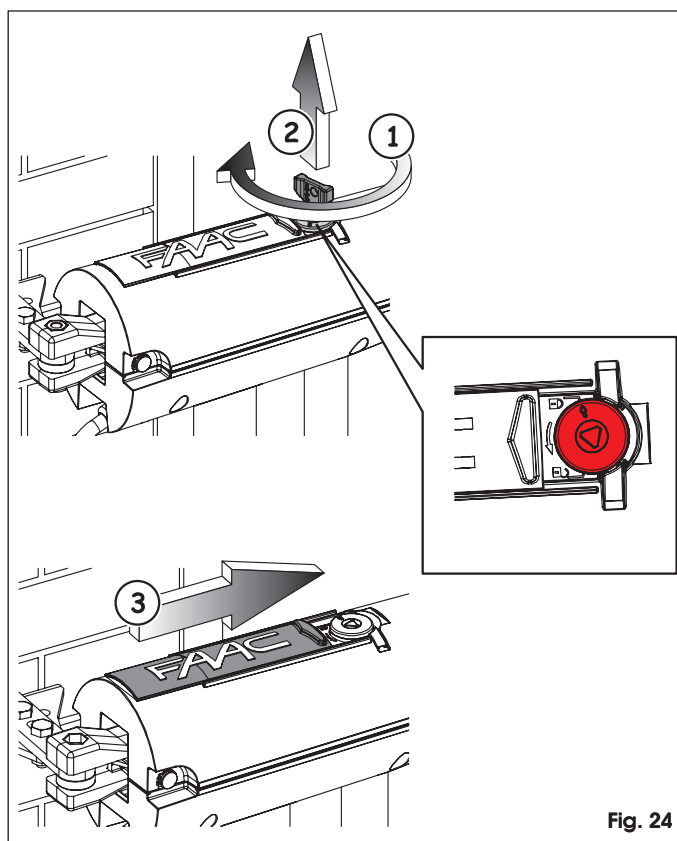

Fig. 24
2. Turn the release key clockwise until it stops, figure 24 ref. ①, and remove the key, figure 24 ref. ②. The locking position is indicated by a closed padlock.
3. Close the protective cap, figure 24 ref. ③.